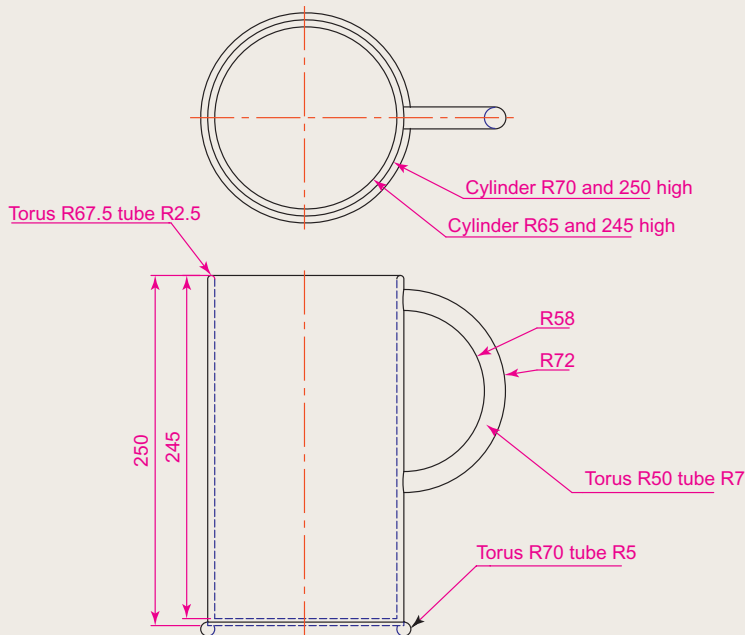

Fig. 14.47 Exercise 4
- Construct a solid of revolution of the jug shown in the orthographic projection (Fig. 14.47). Construct a handle from an extrusion of a circle along a semicircular path. Union the two parts. Place the 3D model in a suitable isometric view and render.